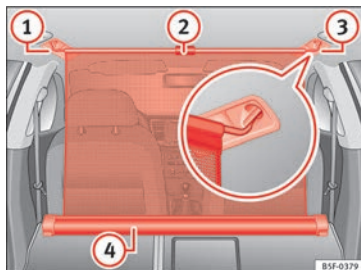

Fig. 174 In the luggage compartment: net partition hooked into the rear seat backrests.
- Pull up handle » Fig. 174 ② to remove the net from the casing » Fig. 174 ④.
- Hook in the net partition on the right side » Fig. 174 ③ (magnified image).
- Hook in the net partition in the left side housing » Fig. 174 ① pulling the rod.
The net partition is properly assembled when the T-shaped ends are firmly secured in the corresponding housings » Fig. 174 ③ and ①.
- Roll up the net into the casing » Fig. 174 ④ lowering it with your hand.